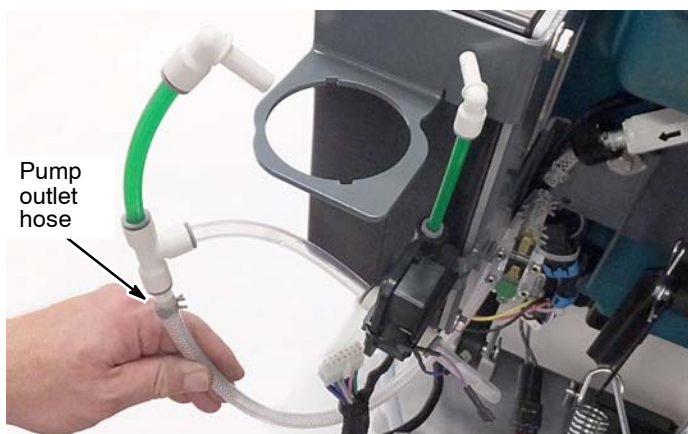

Fig. 24
10. Connect the pump outlet hose to the water conditioning pump assembly as shown (Figure 24).